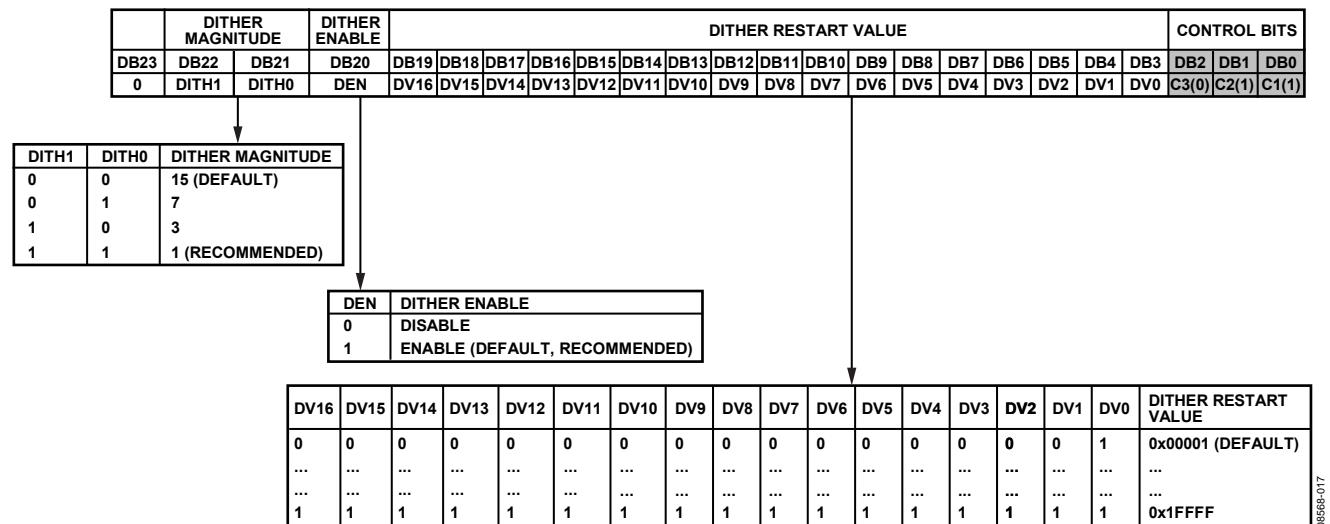

Figure 44. Register 3—Σ-Δ Modulator Dither Control Register Map
With Register 3, Bits[2:0] set to 011, the on-chip Σ-Δ modulator dither control register is programmed as shown in Figure 44. The recommended and default setting for dither enable is enabled (1).